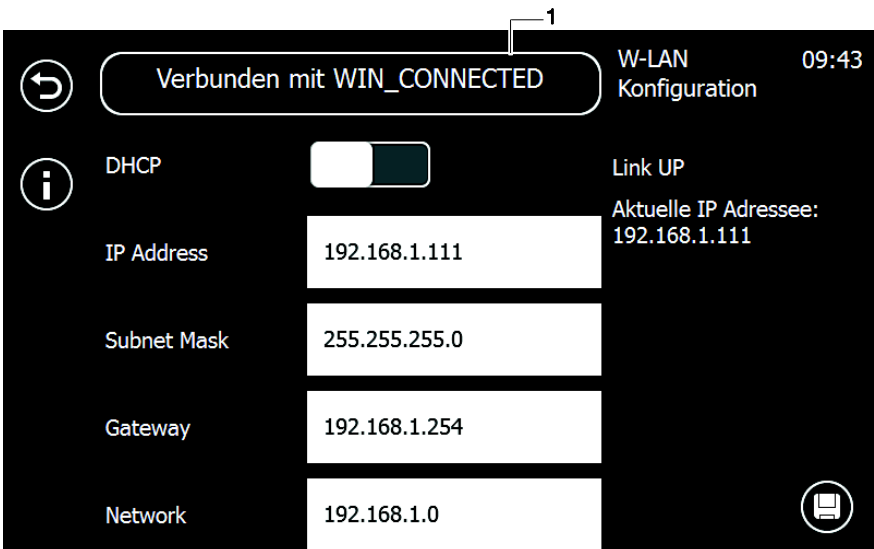

Fig. 8: WLAN configuration
8. Enter values for (see Fig. 8):